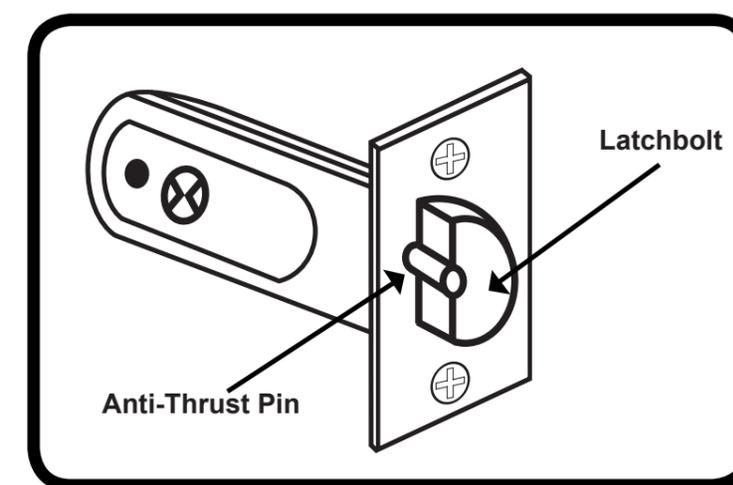

Fig.14
**Please note** the anti-thrust beside the latchbolt as per Fig.14, this deadlocks the latchbolt and protects it against manipulation. **It must not** enter the hole made for the latchbolt when the door is closed.